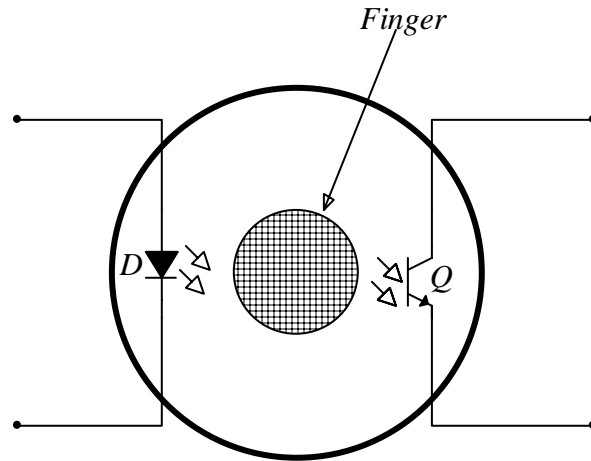

Figure 2. Sensor schematic
The *sensor*, shown separately on Figure 2, will be constructed using an infrared (IR) light emitting diode (LED) (*D*) and a phototransistor (*Q*). For *D* you will use the device QED123 and for *Q* you will use QSD124. Both of these devices are available in the laboratory. In addition the data sheets for them are available for viewing and downloading from the class web site. The mechanical characteristics of the sensor should be such that the finger, the diode and the phototransistor do not move during the measurement. Movement will result in signal fluctuations and up to a certain level, your circuit will (or should) account for them.